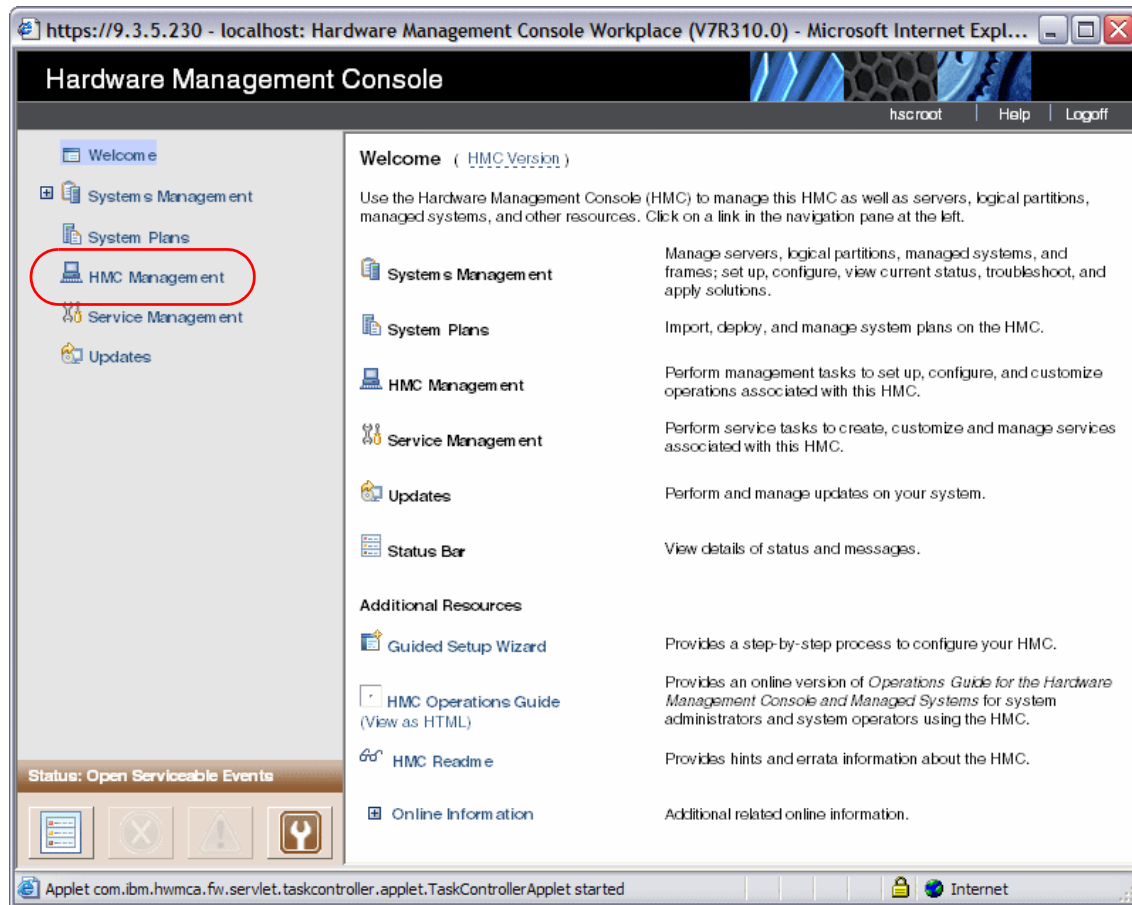

Figure C-7 HMC Welcome Screen
- b. In the HMC workplace window, click **HMC Management** as shown in Figure C-7.